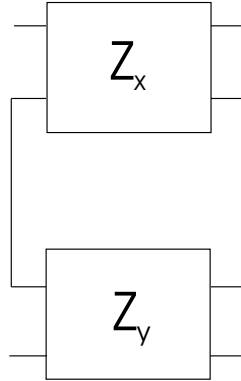

Figure 1.2: Series connection
for a passive network the  $Y$  parameters may be represented by the 2 port network shown in figure 1.2. The  $Z$  matrix is then given by equation 1.2.
**Parallel connection:** Two  $Y$  matrix may be connected in parallel as in figure 1.2. The resulting  $Y$  matrix is simply the addition of the two  $Y$  matrix as shown in equation 1.6.